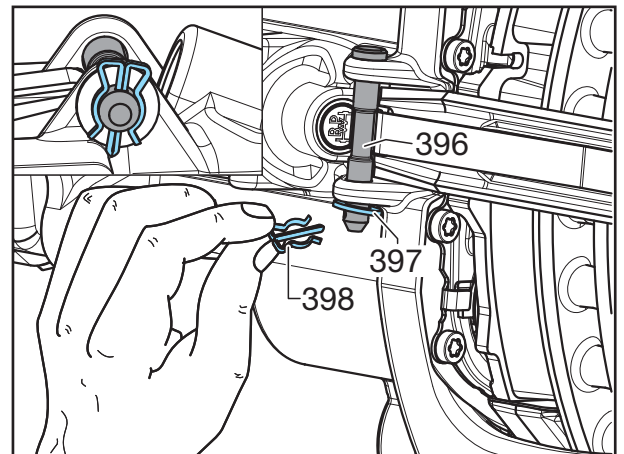

Fig. 29
[37] Insert the bolt (396) from the top, fit washer (397) and secure with spring clip (398). Ensure the correct installation position of the splint, in order to guarantee sufficient clearance to the rim (see fig. 29 atop).